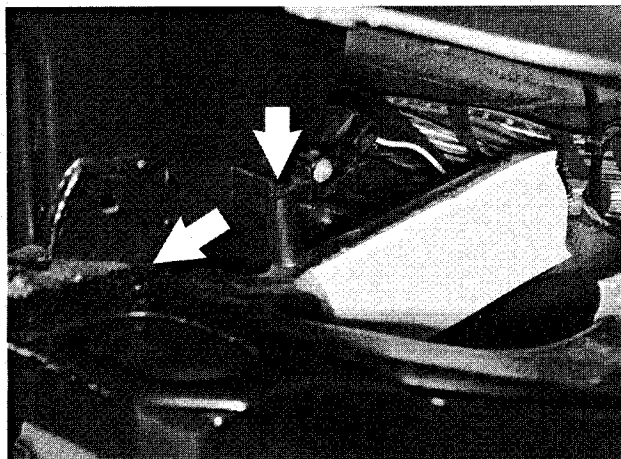

Fig. 51. Unfasten retaining rivets from right ventilation duct (arrows).
2. Remove right footwell ventilation duct. See Fig. 51.